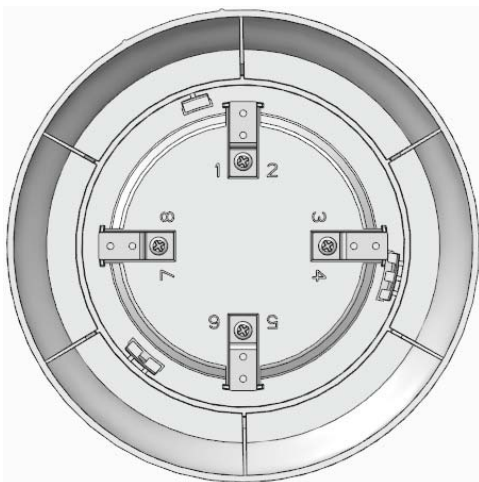

Fig.2 Bottom structure of the Base
2. The bottom structure of the Addressable Flashing Beacon Base as shown in Figure 2. Install the Addressable Flashing Beacon Base on the TX7980-type base with the installation terminals of the two devices are one-to-one. The device number or other device parameters can be verified with a handheld programmer if desired.